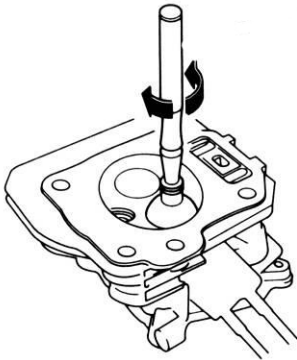

Figure 4-26: Valve Lapping Tool (typical)
5. See Figure 4-26. Attach the valve lapping tool suction cup end to the valve.